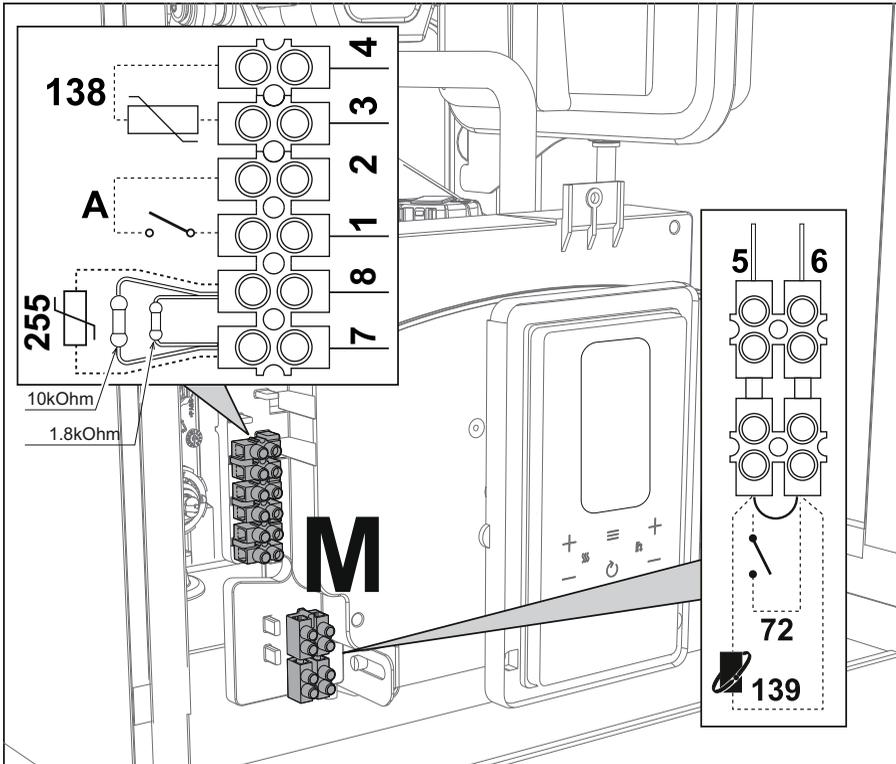
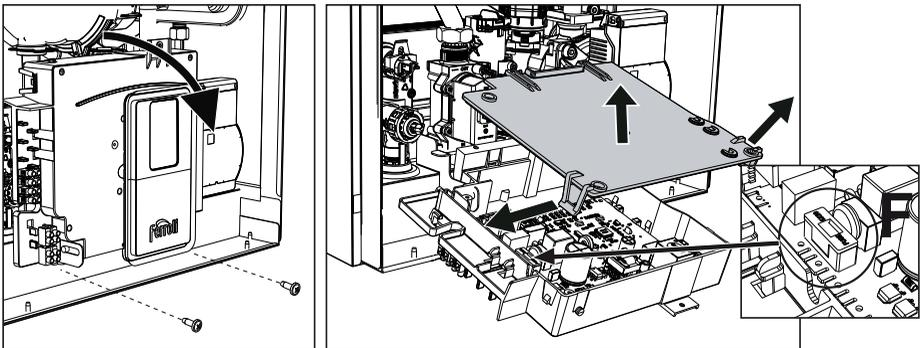

fig. 29
fig. 30
After removing the front panel ( \*\*\* 'Opening the front panel' on page 337 \*\*\* ) it is possible to access the terminal blocks (M) and the fuse (F) following the directions given below (fig. 29 and fig. 30). **The terminals indicated in fig. 29 must be with voltage-free contacts (not 230V).** The arrangement of the terminals for the various connections is also given in the wiring diagram in fig. 66.
### ON/OFF switch configuration (A fig. 29)